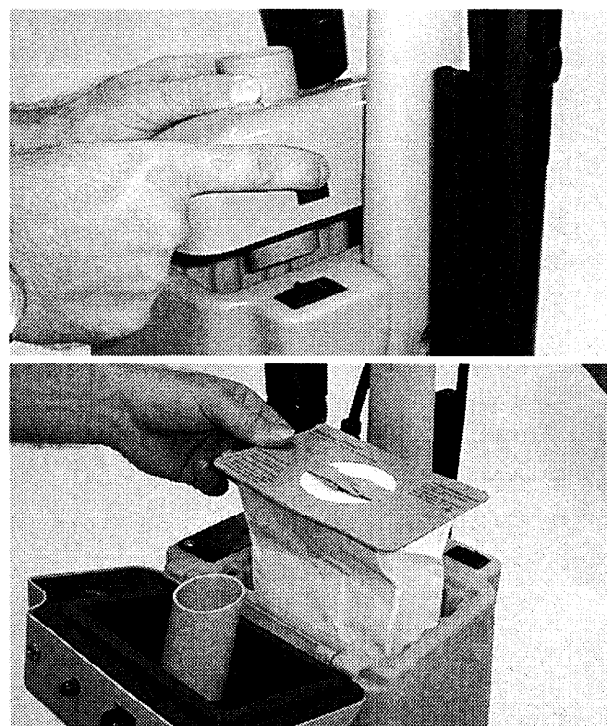

FIG. 4
- Install filter bag (pre-installed). Depress latch on lid to open bag compartment (Figure 4).